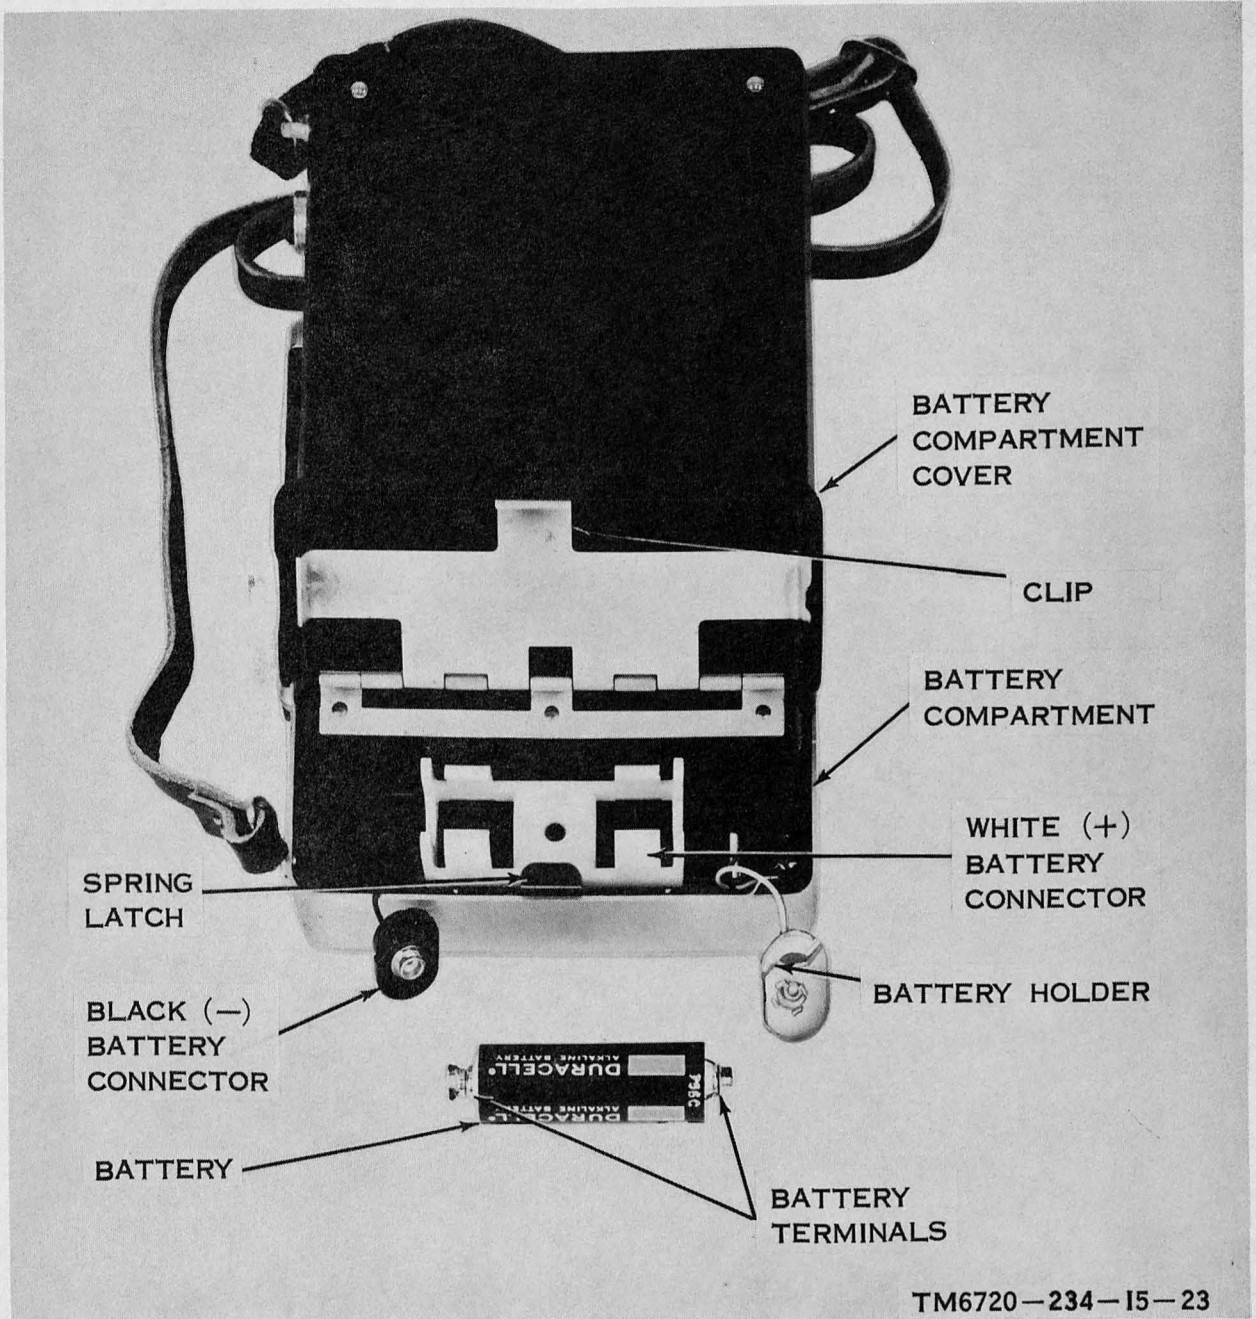

Figure 4-2. Battery removed from camera.
b. Carefully unsnap the black (—) and white (+) battery connectors (fig. 4-2) from the terminals on the ends of the battery, and move them to one side.